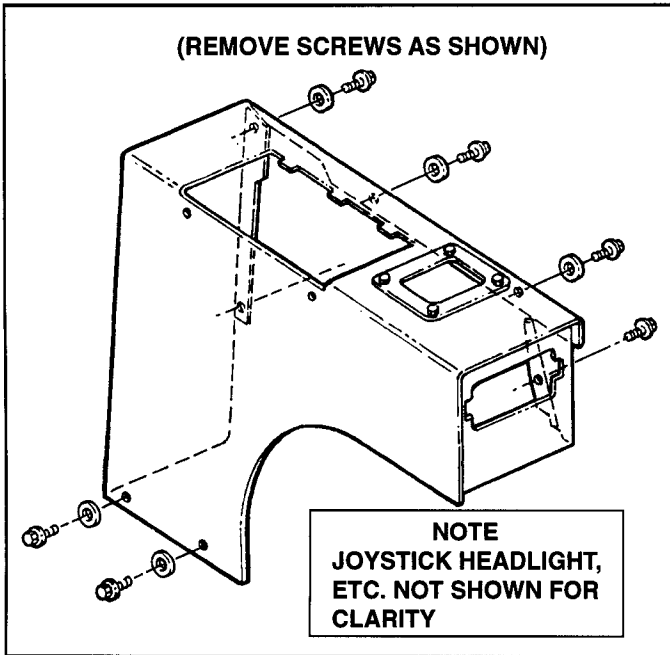

FIGURE 7.8
5. Remove Screws from Fender at locations shown in Figure 7.8.